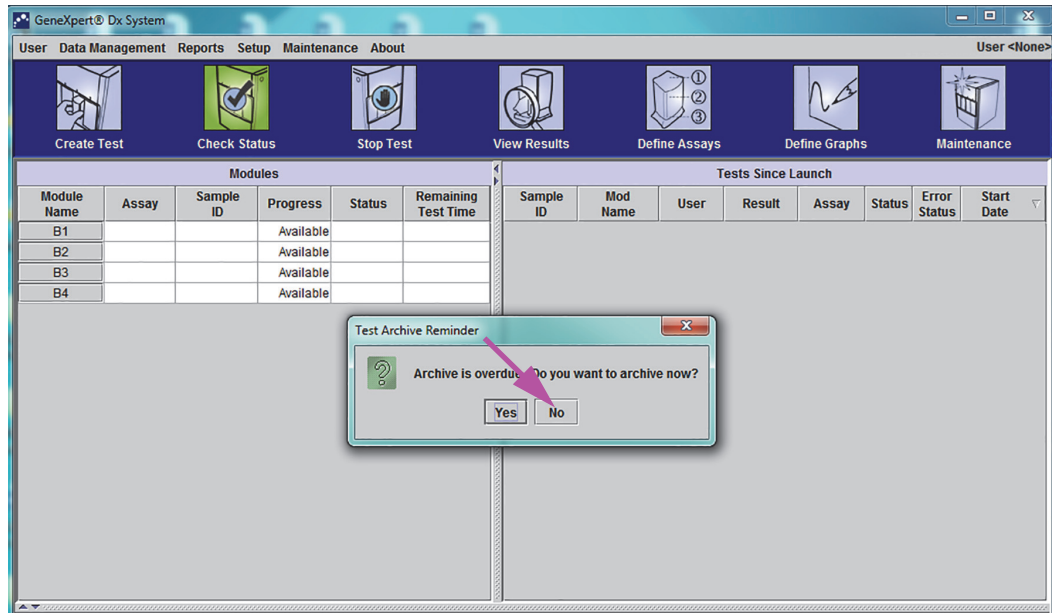
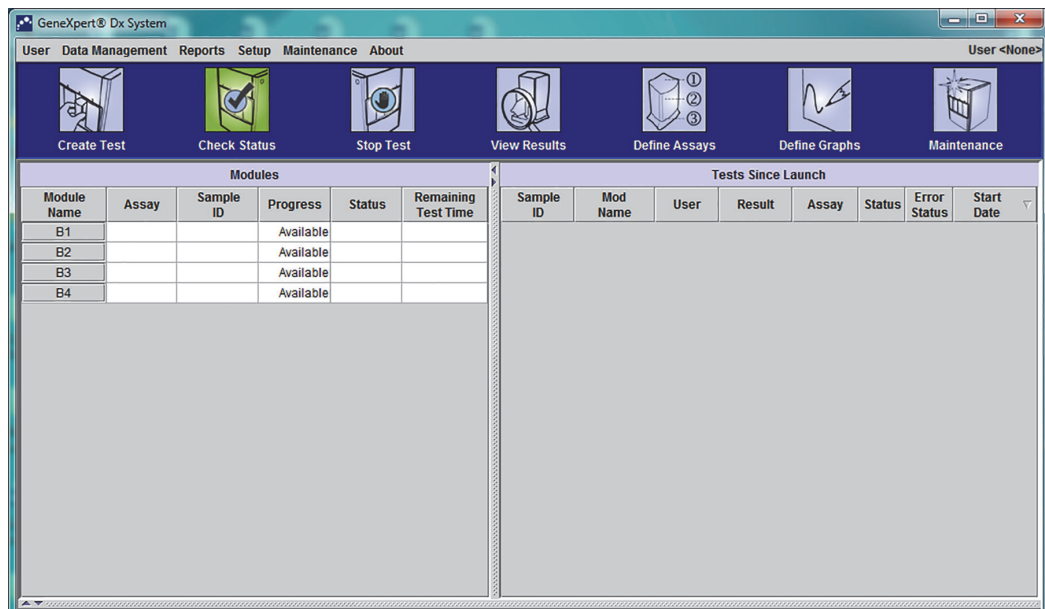

Figure 2-25. GeneXpert Dx System Window with Test Archive Reminder Dialog Box Overlay
Figure 2-26. GeneXpert Dx System Window
3. In the Test Archive Reminder box, click **NO** to proceed (see Figure 2-25). The GeneXpert Dx System screen appears (see Figure 2-26).
Before starting to use the GeneXpert Dx system software, the GeneXpert system administrator and other system users must be defined. All the administrator functions are accessible from the Setup menu in the GeneXpert Dx System window. See Figure 2-25.